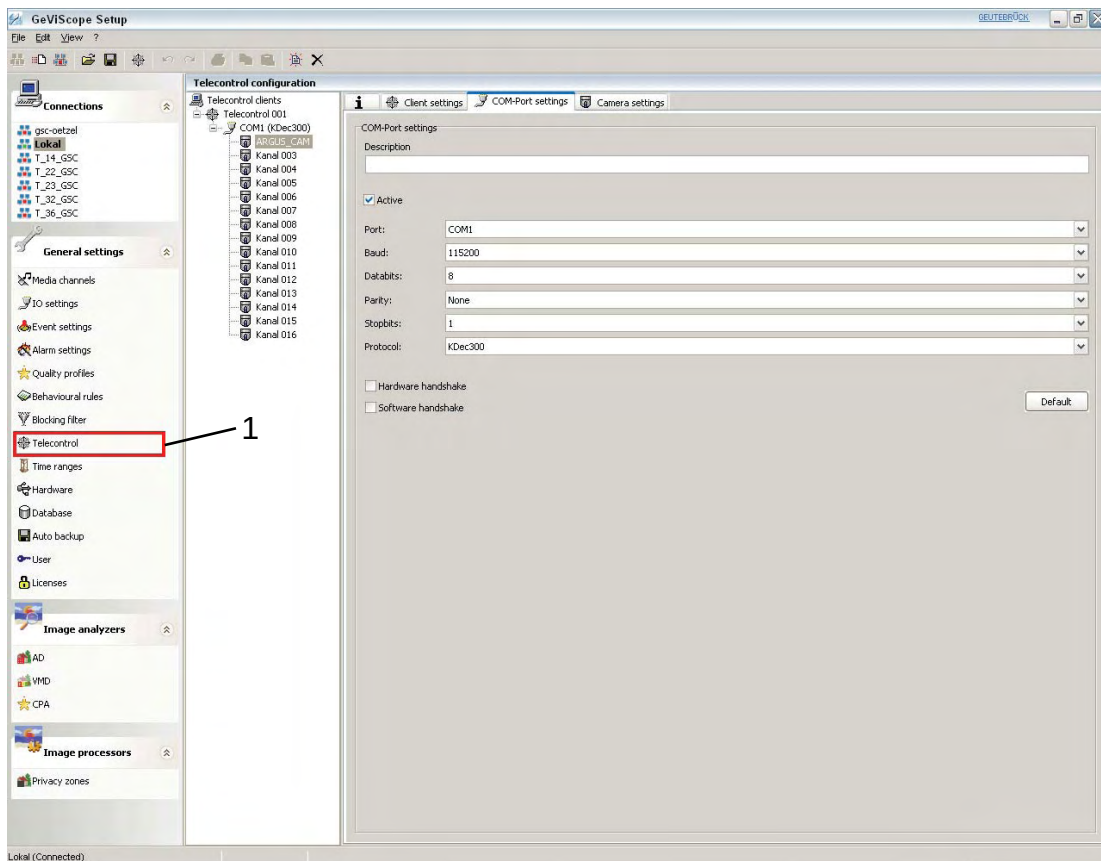

Figure 9-7: GscSet view
- After these settings have been made, switch to the dialog box "Telecontrol" (see 1 in figure 9-7).